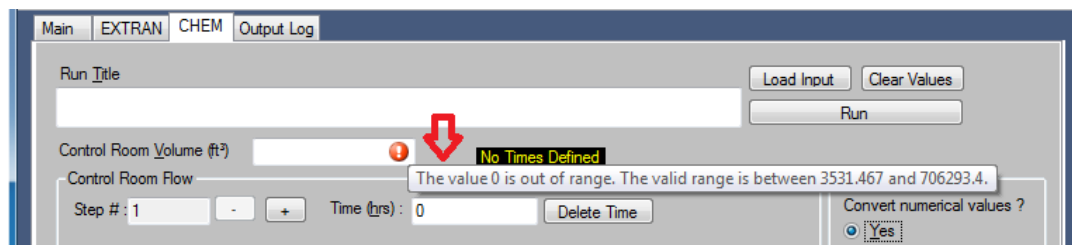

Figure 2-3: Validation Warning – input out of range
1. Field validation warnings (see Figure 2-3: Validation Warning – input out of range).